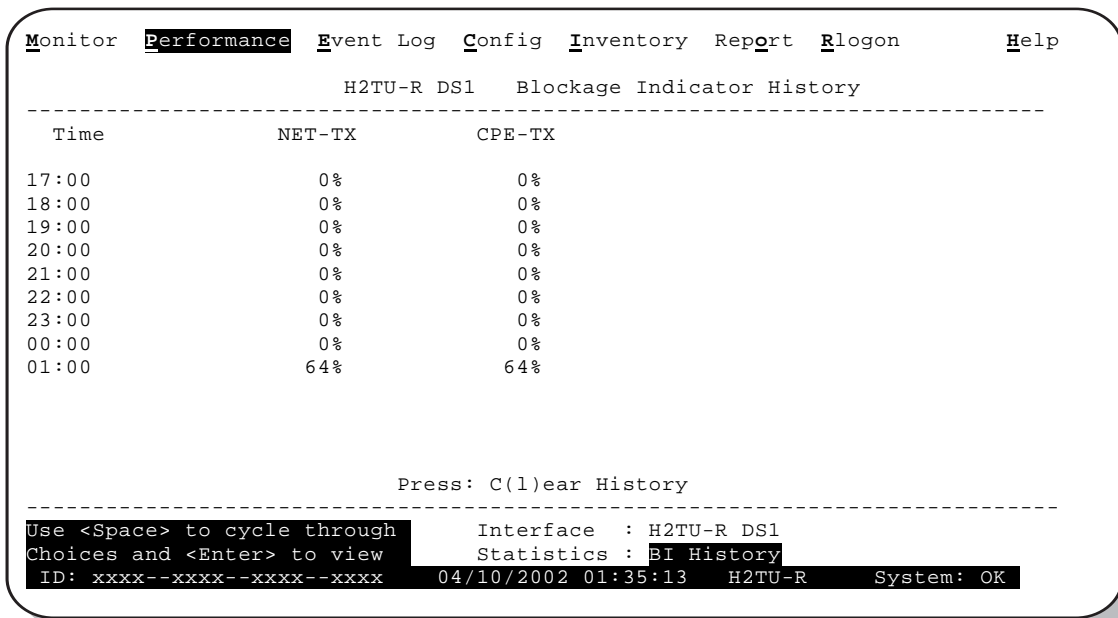

Figure 18. H2TU-R Blockage Indicator History Screen
Figure 18 is an example of an H2TU-R Blockage Indicator (BI) History screen as viewed from the H2TU-R following a remote logon. This screen can also be viewed when logged on locally at the remote unit. The BI statistics can also be retrieved using inband or Facility Data Link (FDL) access.